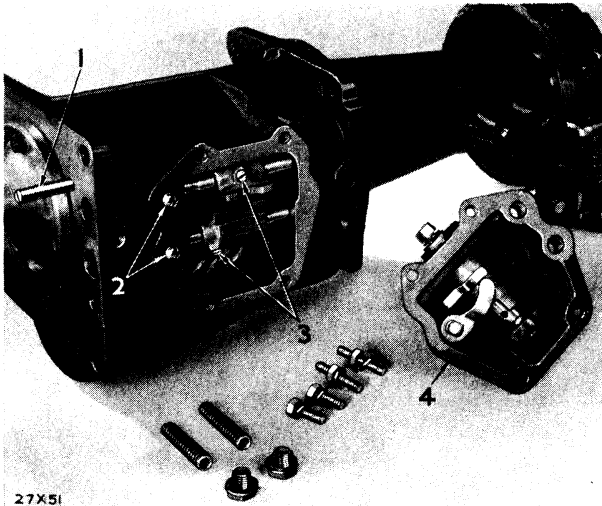

Fig. 2—Removing Manual Remote Gearshift Rails
- (4) Unscrew and pull out shifter fork guide rail (Fig. 2) from front of transmission case.
- (5) With transmission gears in neutral position, remove two lock screws which hold shifter forks to shifter rails.
- (6) Remove welch plug for lower shifter rail by collapsing plug with a center punch.
- (7) Remove upper and lower shifter rails by sliding them out through front of transmission case. When assembling transmission, install a new welch plug for lower shifter rail. **Make sure welch plug does not leak, as this point is below lubricant level. Lift out shifter forks. Care must be taken not to drop detent balls into transmission case.**
- (8) Remove cap screws which hold extension housing to transmission.
- (9) Remove extension and mainshaft from transmission, being careful not to disassemble synchronizer clutch assembly.